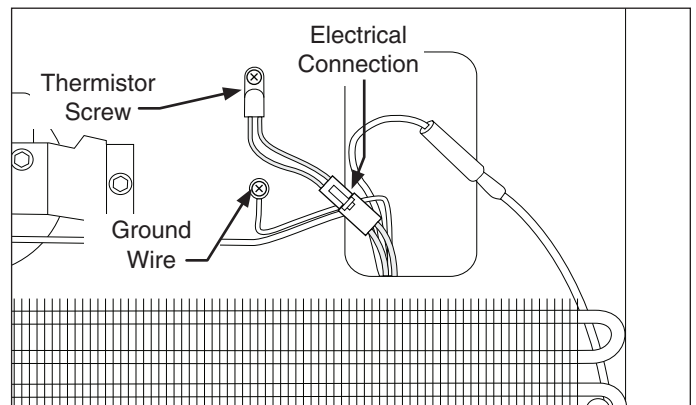

Figure 6-52. Thermistor Removal
5. Extract the screw securing the thermistor to the back wall of the cabinet interior. (See Figure 6-52)